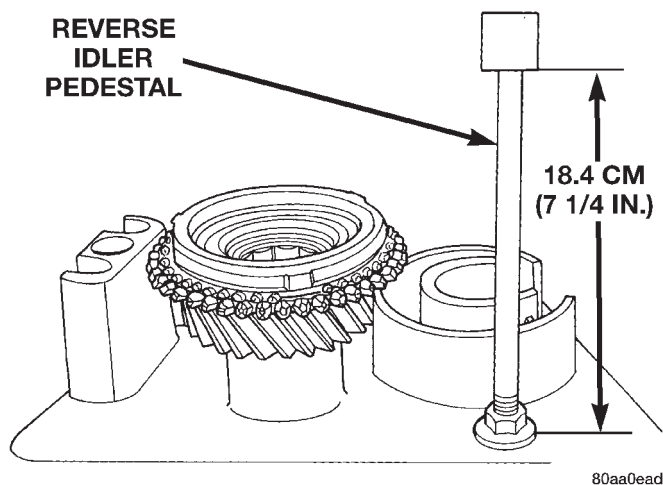

Fig. 87 Idler Pedestal Basic Height Adjustment
(5) Adjust height of idler gear pedestal on assembly fixture (Fig. 87). Start with a basic height of 18.4 cm (7-1/4 in.). Final adjustment can be made after gear is positioned on pedestal.